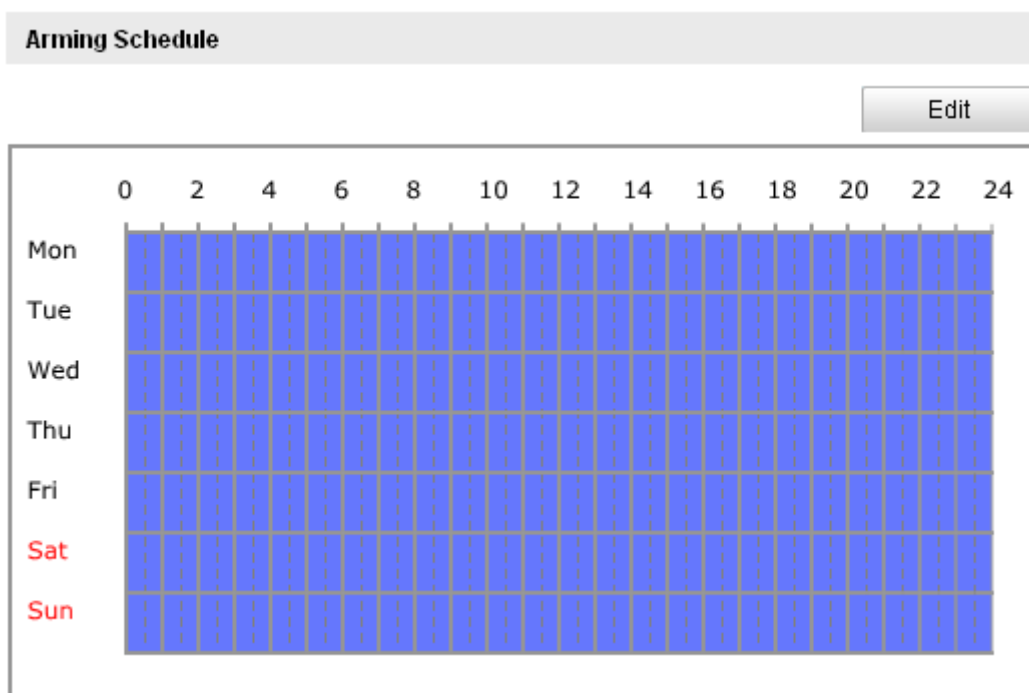

Figure 6-38 Arming Schedule
(1) To edit the arming schedule as shown in Figure 6-39, click  in Figure 6-38.